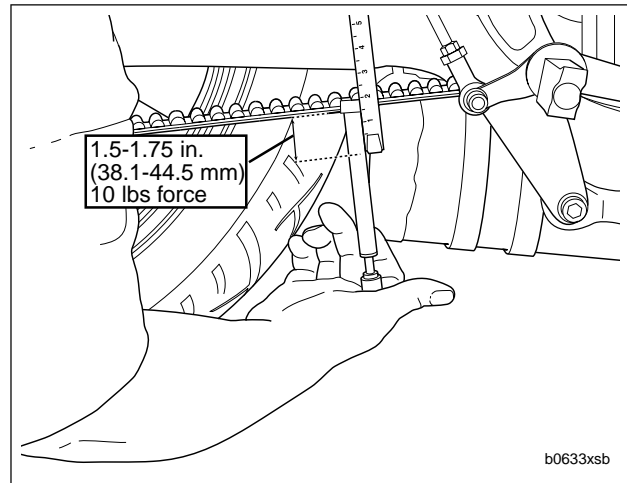

Figure 2-71. Belt Deflection
- b. See Figure 2-71. Check belt deflection.